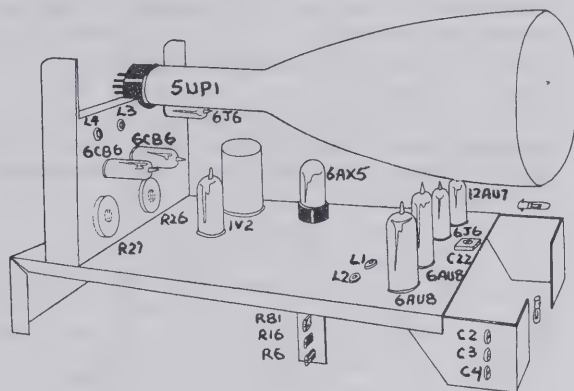

Fig. 7
- ✓) Fig. 7. Insert the large felt in the rear bezel. (A few drops of glue will hold the felt to the rear bezel securely.)
- ✓) Fig. 7. CAREFULLY remove the 5UP1 from its carton and insert in the felt-lined rear bezel. Clamp in place with the two CRT clamps. Use the small felt, two #6-32 X 3/4 screws, two #6 hex nuts, and two #6 lockwashers. Be sure the clamps are on the tube base — NOT on the glass. Insert the CRT under the twin lead from TB17 to TB11.
b) Adjust panel controls for a stationary pattern of several 60 cps sine waves (approximate overall pattern dimensions: 2" high, 3" wide). Make a preliminary adjustment for sharpness of the trace with the FOCUS control. Then set the INTENSITY control to produce a trace of normal brightness (excessive intensity will be evidenced by "blooming" of the trace). At this point any astigmatism in the trace will be evidenced by some portions of the trace being thicker than others. Now jointly adjust the astigmatism control R81 (see Fig. 7) and the FOCUS control until a sharp trace with the greatest possible uniformity of thickness is obtained.
c) Short the V-INPUT terminals. Set the VERT. ATTENUATOR to "1000" under the AC arc on the dial and the VERT. GAIN control for minimum gain. Adjust the V. POS. control for a trace vertically at dead center. Now set the VERT. GAIN control for maximum gain and adjust the DC balance control R16 (see Fig. 7) until the trace is returned vertically to dead center. Repeat until no vertical shift in the trace can be detected when the VERT. GAIN control is rotated from minimum to maximum.
d) Adjust linearity controls R26 and R27 (see Fig. 7) exactly as follows. Set the VERT. GAIN control for minimum gain. Set your VTVM or VOM (at least 1000 Ω /volt) to a low DC volts range on which 2 volts dc can be read with reasonable accuracy. Connect the negative voltmeter lead to grid pin 1 of the 6CB6 tube V3 and the positive lead to cathode pin 2. Adjust the linearity control R26 for a voltmeter reading of 2 volts; or as near 2 volts as the control permits. Disconnect both voltmeter leads from the grid and cathode pins of V3. Now connect the negative voltmeter lead to grid pin 1 of the other 6CB6 tube V4 and the positive lead to the cathode pin 2. Adjust the other linearity control R27 for a voltmeter reading of 2 volts also, or if 2 volts was not obtainable in the previous adjustment, to whatever voltage was obtained in this adjustment. Do not attempt voltage measurements to ground as there is a voltage of approximately 100 volts between each 6CB6 cathode and ground which might seriously damage a voltmeter set to a low range. Change in H positioning is normal during these adjustments.
i) Adjustment of calibration voltage: Set your VTVM or VOM to the ac voltage range on which 1.42 volts rms (or 4 volts peak-to-peak) can be read as accurately as possible. Connect one voltmeter lead to the junction of rheostat R6 and resistor R5 and the other lead to chassis ground. Adjust rheostat R6 (see Fig. 7) for a reading of 1.42 volts rms or 4 volts peak-to-peak. Note that this voltage is applied to a 10:1 divider composed of R4 and R5, so that the voltage actually injected into the vertical amplifier is 400 millivolts peak-to-peak.
j) Adjustment of TV-H sweep trimmer: Set the SWEEP SELECTOR at TV-V. Then set the VERT. ATTENUATOR to CAL., the HOR. SELECTOR at "+", and adjust the SWEEP VERNIER to obtain a stationary pattern of two complete cycles on the screen indicating a 30 cps sweep frequency. Now turn the SWEEP SELECTOR to the TV-H position and apply a 15,750 cps signal taken from the horizontal section of any tv set to the V. INPUT terminals. Adjust the VERT. ATTENUATOR & VERT. GAIN controls to obtain a drifting pattern entirely on screen but do not touch the SWEEP VERNIER. Now adjust trimmer C22 (see Fig. 7) until a stationary pattern of two complete cycles is obtained on the screen, indicating a 7875 cps sweep frequency. This completes the adjustment. Now, whenever the SWEEP VERNIER is set to produce a 30 cps sweep (indicated by two cycle display of 60 cps signal) with the SWEEP SELECTOR set at TV-V, turning the SWEEP SELECTOR to TV-H without touching the SWEEP VERNIER will automatically give a 7875 cps sweep.
TUBE REPLACEMENT: Tube location is shown in Fig. 7. Readjustment will be required when replacing V1, V2, V3, or V4. When the CRT is replaced, it must be rotated until the horizontal trace is level.